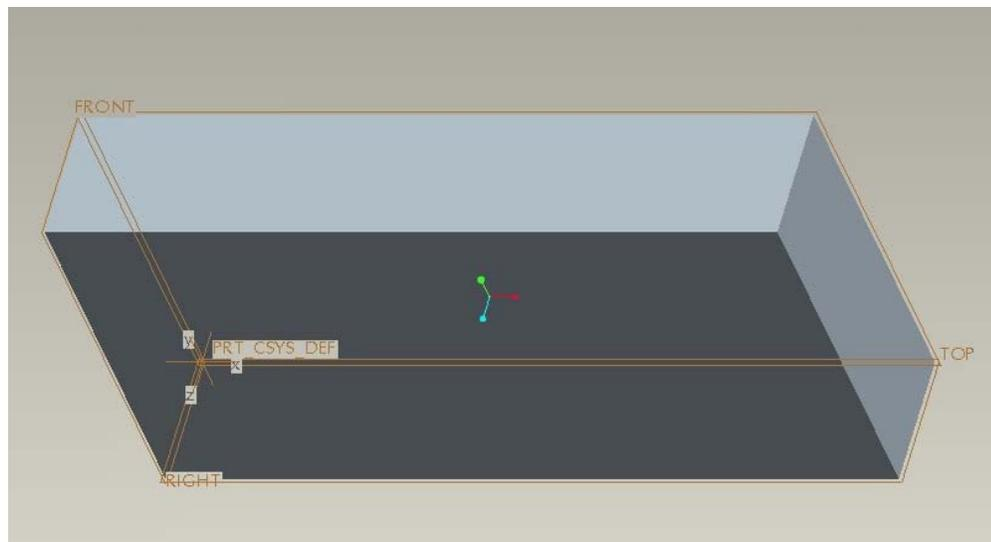

Figure 1.8 Block
- 5) Create a 4" x 8" x 1.5" rectangular block as shown in Figure 1.8.
- View the rectangular block as shown in Figure 1.8. View → Orientation → Standard Orientation.